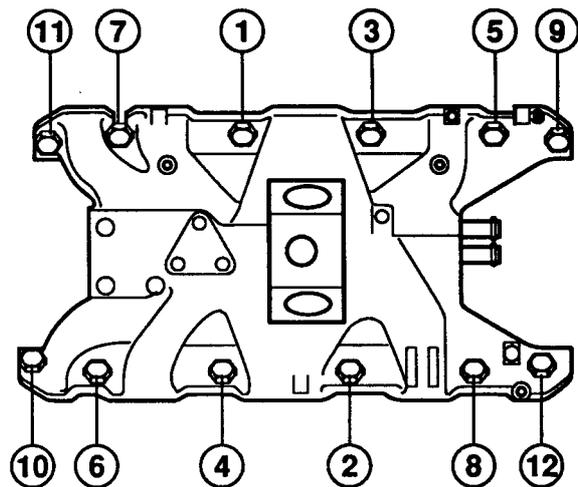

Fig.7 Inlet manifold bolt tightening sequence
1. Two lengths of bolt are used, 35 mm and 48 mm. Ensure the two longer bolts locate in positions 10 and 11 (see fig.7).
- b. Pre-tighten the manifold bolts in the sequence shown (fig.7) to 10 Nm (7 lbf ft).